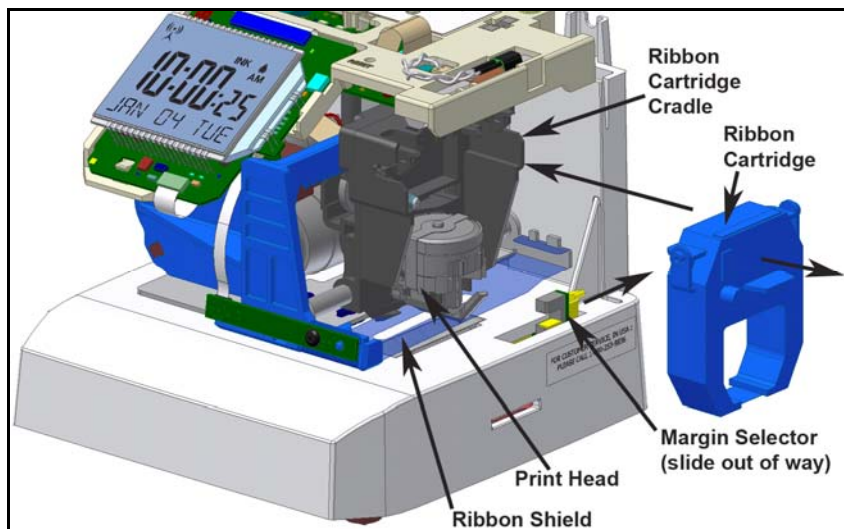

Figure 6: PIX-75 Ribbon Cradle Location.
The Amano PIX-75 clock pictured in Figure 6 shows a typical layout with the ribbon cartridge removed from the cradle.
- Step 2. Grasp the tab on the ribbon cartridge, and pull the ribbon cartridge out of the cradle (see Figure 6).
- Step 5. To reset the INK indicator, press and hold the **ENTER** button for three (3) seconds.
Note – If the print mechanism is down (a piece of paper could not be inserted), press the **RESET** button to move the carriage to the up position. This will make the ribbon cartridge installation easier. **The Margin Selector (see Figure 6) can be moved toward the rear of the clock to provide more clearance for ribbon replacement.**
The Amano Part number for a replacement Ribbon Shield (see Figure 6) is **AJR-600600**.